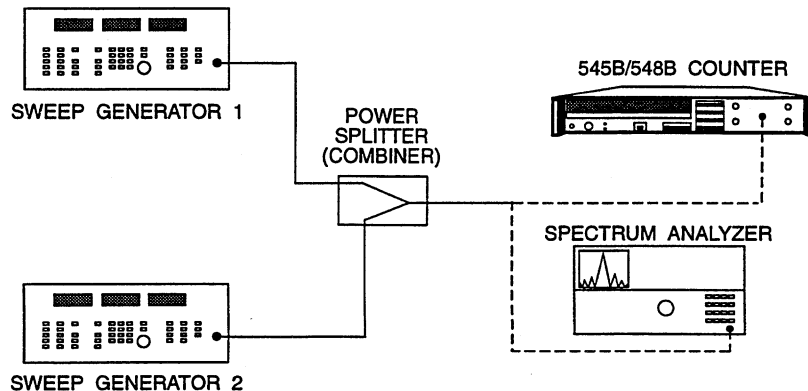

Figure 5-6. Band 3 Amplitude Discrimination Test Setup.
1. Connect equipment as shown in Figure 5-6.